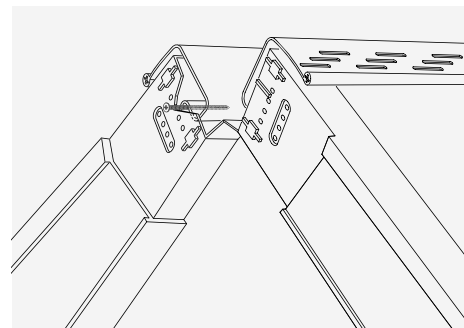

Fig. 6 – Insert verge unit with previous unit
- 12 For the Marley Universal dry verge system, top course verge unit is retained by inserting a screw into second series of holes in verge unit and locating unit behind mid section of dry verge batten (Fig. 6)